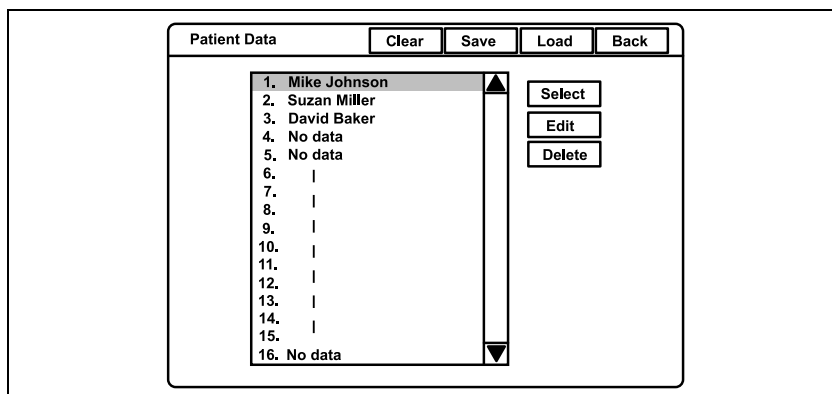

Figure 5.92
1. Press the “Shift” and “F3” keys together to display the “Patient Data” menu (see Figure 5.92).